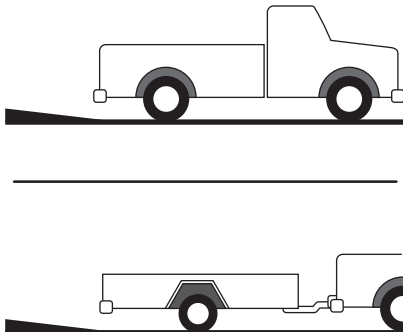

Figure 3-11
3. Face the truck bed or trailer towards a slight incline, which will reduce the steepness of the loading angle by bringing the bottom of the ramps up on the slight incline. See Figure 3-11.